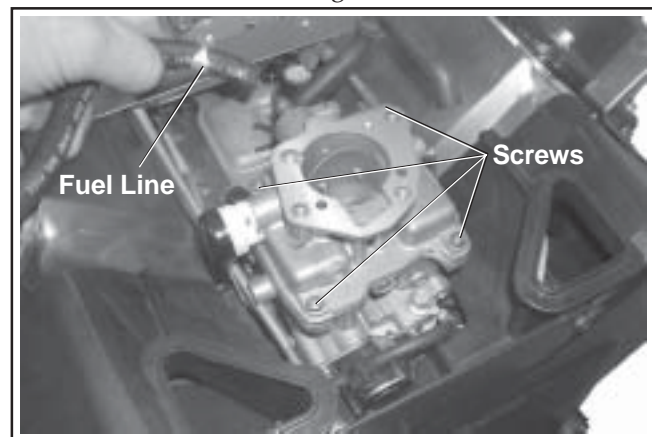

Figure 5-9. Carburetor Detail.
2. Disconnect the fuel line from the carburetor. See Figure 5-9.
- Once the proper float height is obtained, carefully lower the carburetor air horn assembly onto the carburetor body, connecting the choke linkage. Install the four screws. Torque the screws to **1.7 N·m (15 in. lb.)**. See Figure 5-9.